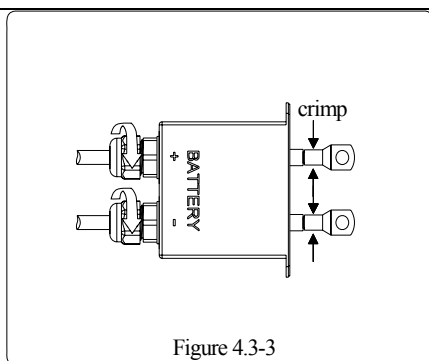
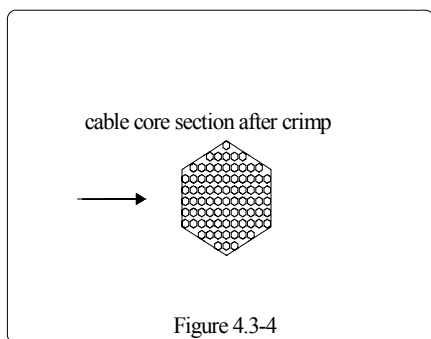

Figure 4.3-3
Figure 4.3-4
6. Compress the terminal head by professional tool and screw down screw cap slight. Refer to Figure 4.3-3、 Figure 4.3-4.